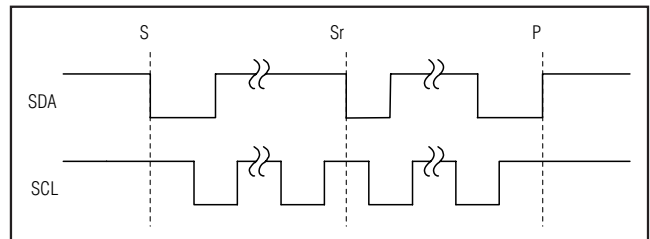

Figure 5. START and STOP Conditions
The master initiates a transmission with a START condition (S), a high-to-low transition on SDA while SCL is high. The master terminates a transmission with a STOP condition (P), a low-to-high transition on SDA while SCL is high (Figure 5). A repeated START condition (S_r) can be used in place of a STOP condition to leave the bus active and the mode unchanged (see the *HS Mode* section).